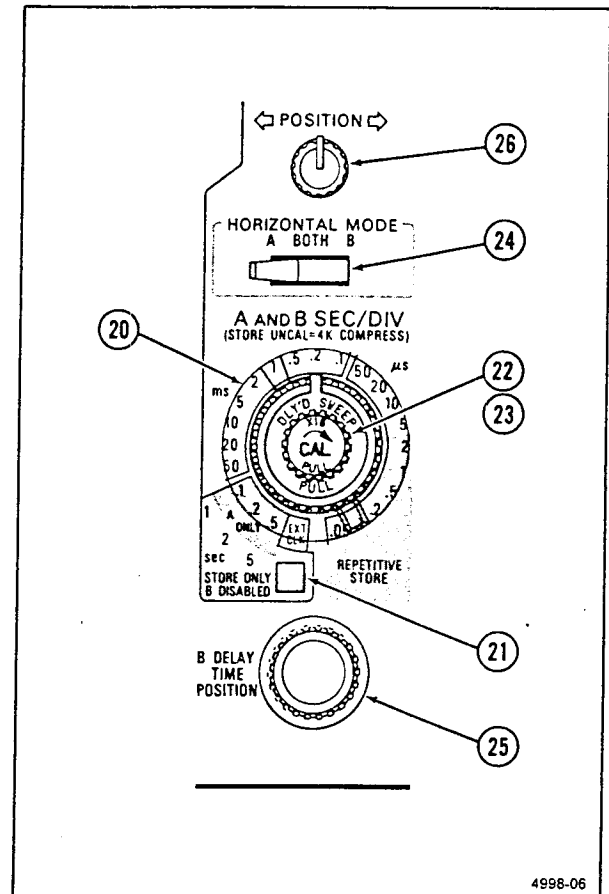

Figure 2-6. Horizontal controls.
Refer to Figure 2-6 for location of items 20 through 26.